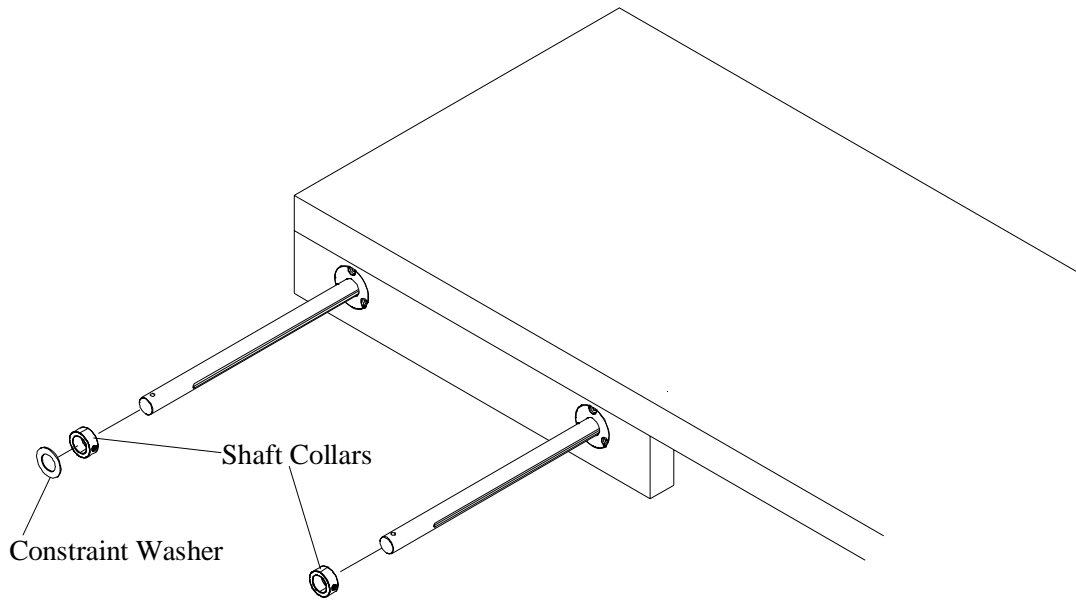

FIG. 11
Step 11: Place a shaft collar on one clamp shaft and a shaft collar and 1-3/4" dia. constraint washer on the other clamp shaft as shown in Fig. 11. Install the jaw on the clamp shafts so the clamp shafts protrude through the jaw a couple of inches. The constraint washer should fit into the 1-3/4" diameter hole drilled in the back side of the jaw.